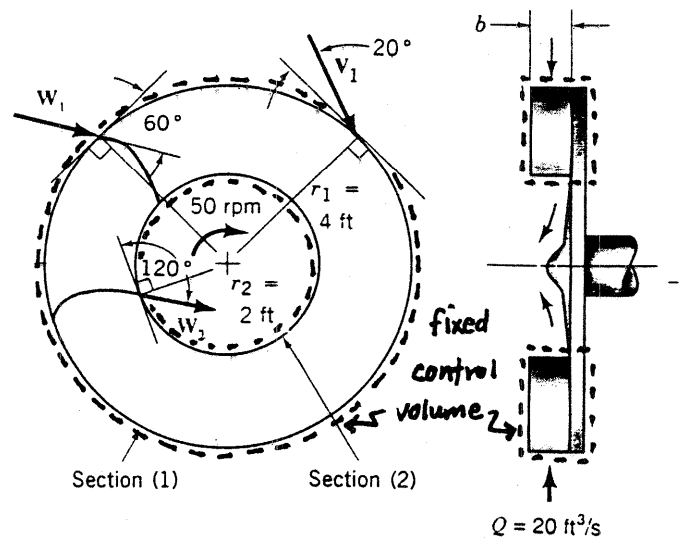

FIGURE P5.71
5.71 A water turbine wheel rotates at the rate of 50 rpm in the direction shown in Fig. P5.71. The inner radius, r_2 , of the blade row is 2 ft, and the outer radius, r_1 , is 4 ft. The absolute velocity vector at the turbine rotor entrance makes an angle of 20° with the tangential direction. The inlet blade angle is 60° relative to the tangential direction. The blade outlet angle is 120° . The flowrate is $20 \text{ ft}^3/\text{s}$. For the flow tangent to the rotor blade surface at inlet and outlet, determine an appropriate constant blade height, b , and the corresponding power available at the rotor shaft.